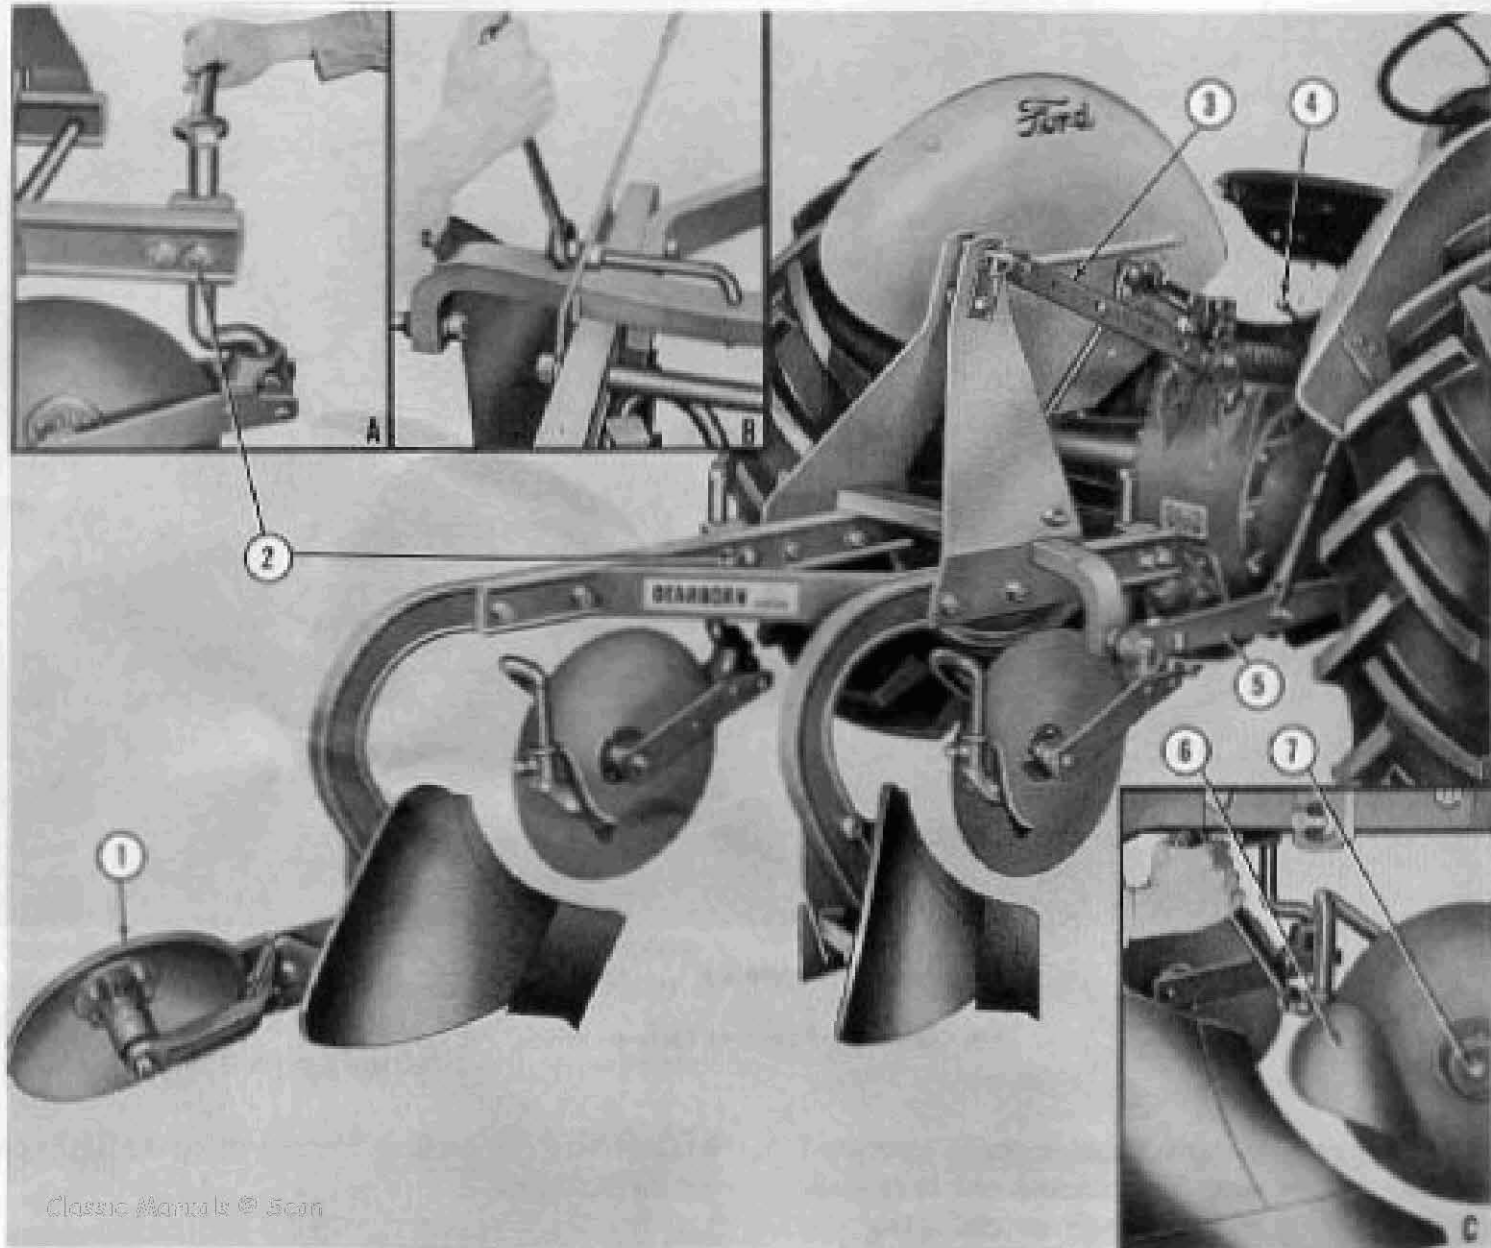

Figure 25
Width of Cut: To adjust the plow frame for width of cut loosen and tighten the hex nuts on the adjusting arm as shown in the insert "B", Figure 25. This adjustment of the arm slides the drawbar laterally in the "A" frame.
Side Tilt: The plow side tilt is adjusted by turning the leveling crank (4), Figure 25, which raises or lowers the tractor right hand lift link (5). This adjustment is necessary to level the plow and to set the plow at an angle when finishing a land, striking out a land, making a scratch furrow, or in forming terraces. Under
Bottom Pitch: For normal conditions the top link (3), Figure 25, should be set at its shortest length. In certain soil conditions it may be lengthened to obtain the desired pitch of the bottoms, however, the plow must be leveled.
Rolling Landside: To adjust the rolling landside (1), Figure 25, loosen the two plow bolts which attach it to the sliding landside. Turn the adjusting bolt until the rolling landside is not more than $\frac{1}{2}$ inch below the lower edge of the sliding landside and secure with the locknut. Tighten the nuts on the plow bolts securely.
about $\frac{3}{4}$ inch to the left of the moldboard shin. Loosen the nut (2), Figure 25, and set the coulters stem with a plow wrench as shown in the insert "A", Figure 25. Tighten the eye bolt nut (2) securely.
Coulters Bearings: The coulters have cone type bearings with white iron male outer cones and chilled grey iron inner mating cones. Adjust the nut on the bolt (7), Figure 25, to take up excess play and secure with locknut.
Jointer: The jointer (6), Figure 25, should be set with the point lightly touching the coulters blade. Jointers should be set to cut from one to three inches deep for better trash coverage. To adjust, loosen the set screw on the jointer arm collar as shown in the insert "C", Figure 25.
When making headland furrows, the plow should be tilted to the left with the leveling crank (4), Figure 25. The headland furrow should be turned toward the area to be plowed. Allow adequate room for turning between fence and headland furrows.